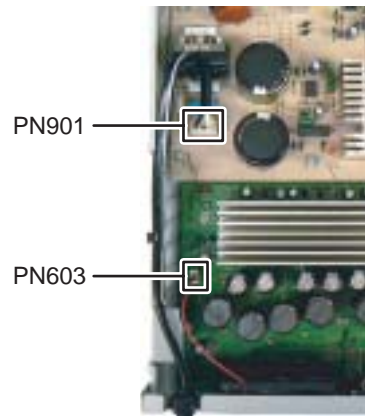

Fig.10
3.1.5 Removing the Rear panel (See Fig.10, 11)
- (1) Disconnect the Power cord from connector PN901 of the SMPS board. (See Fig.10)
- (2) Disconnect the connector wire from FAN connected to connector PN603 of the Amp board. (See Fig.10)